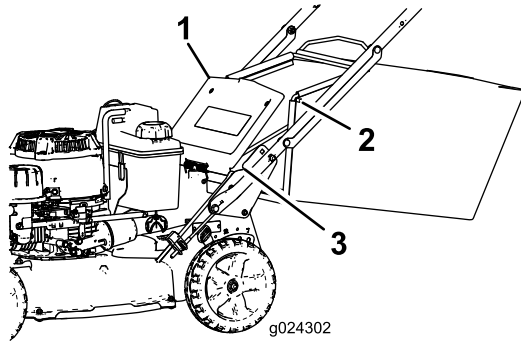

Figure 20
- Raise and hold up the rear door (Figure 20).
- Install the bag-rod ends into the notches at the base of the handle, and rock the bag back and forth to ensure that the bag-rod ends are seated at the bottom of both notches (Figure 20).
- Remove the bag rod on the grass bag from the notches at the base of the handle (Figure 20).